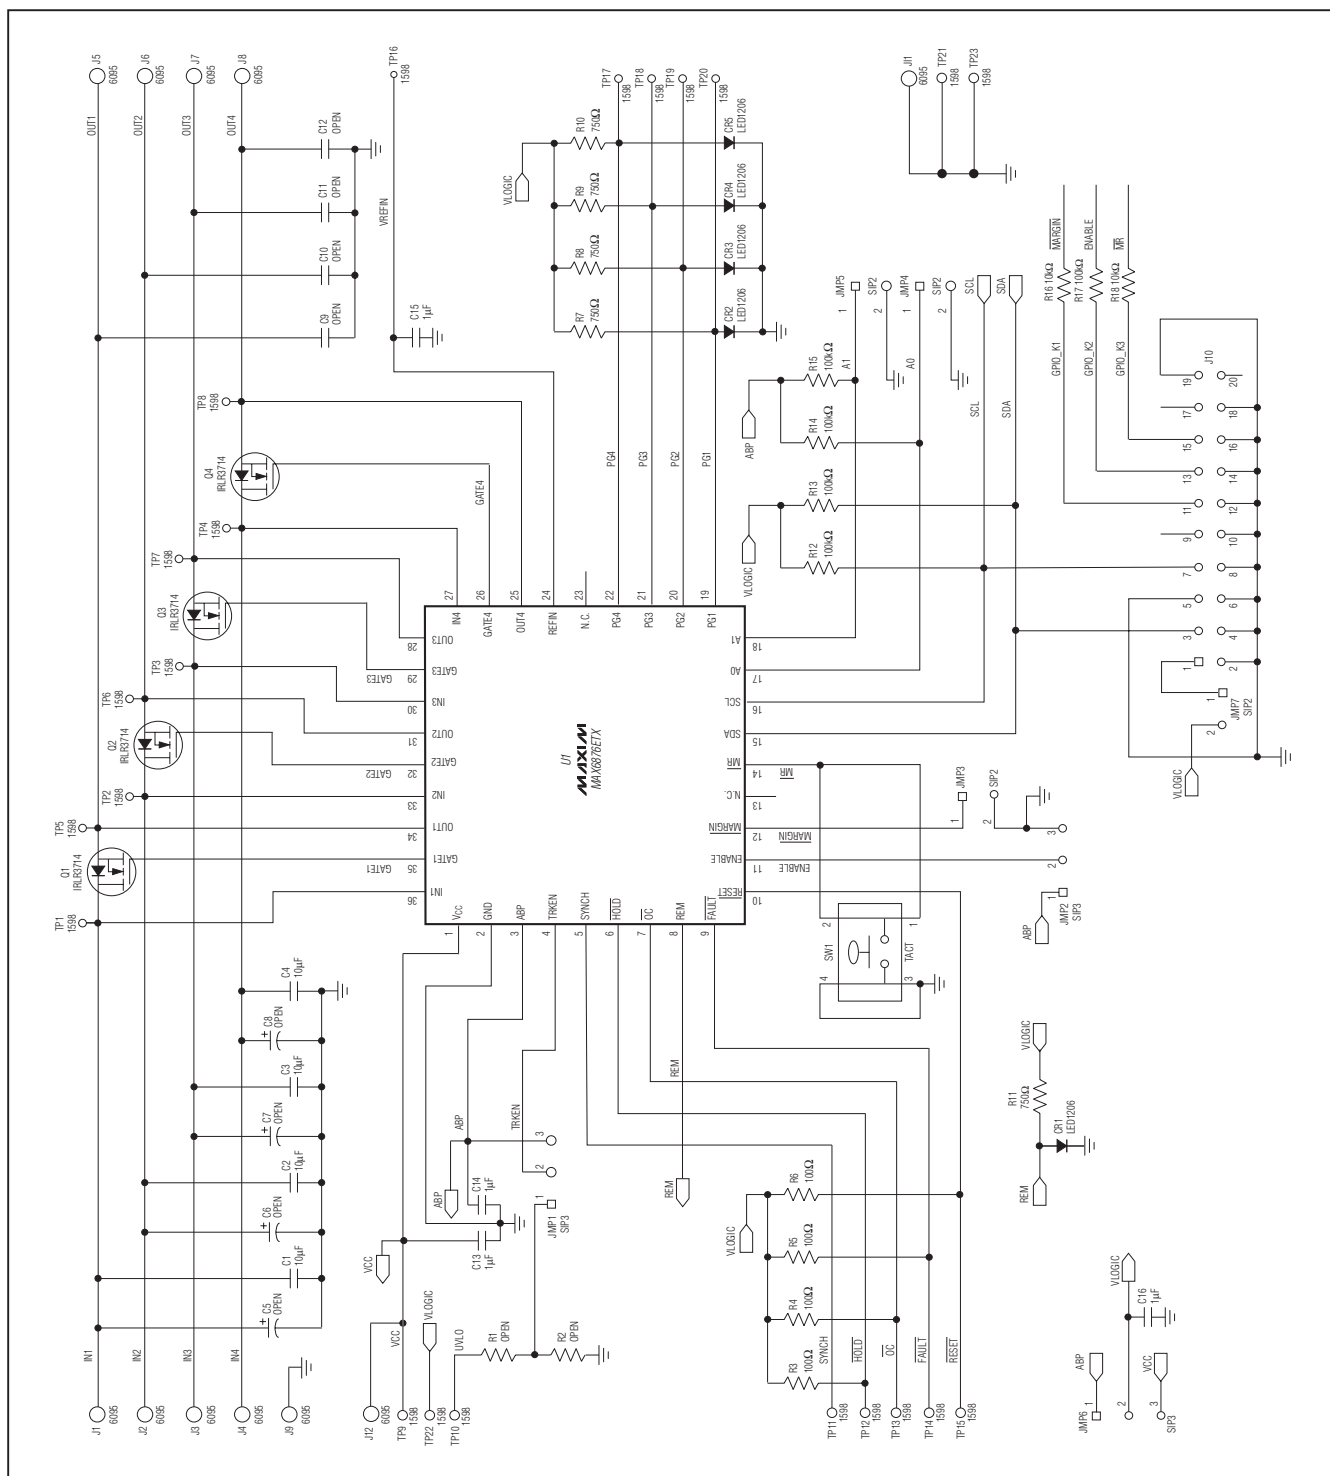

Figure 3. MAX6876 EV Kit Schematic
- 5) Set JMP6 to provide either VCC or ABP voltage to the VLOGIC net. The VLOGIC net must be connected to ABP if the MAX6876 is to be powered from one of the voltage-detector inputs (IN1–IN4), and the CMOD232 module is not connected (or if JMP7 is open). See Figure 3 and Table 5 for JMP6 settings. Be sure to remove resistors R7–R10 if VLOGIC is to be connected to ABP. Refer to the ABP section of the MAX6876 IC data sheet.
- 6) Place a shorting link at JMP7 if the MAX6876EVKIT logic is to be powered from the CMOD232 module. This connects the CMOD232 +5V supply to the VLOGIC net of the MAX6876EVKIT. See Figure 3 and Table 6.
Tables 1 through 5 describe the EV kit configuration jumper functions. For a detailed understanding of the jumpers, see Figure 3, the MAX6876 EV kit schematic.